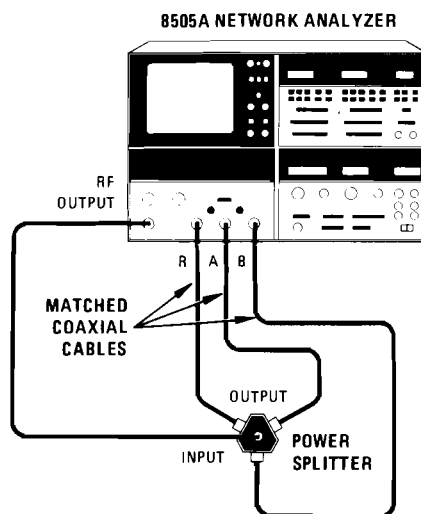

Figure A4-10. Ratio Frequency Response Test Setup
- j. Connect equipment as shown in Figure A4-10 with the power splitter connected to "R", "A", and "B" inputs and Power Meter disconnected from setup.